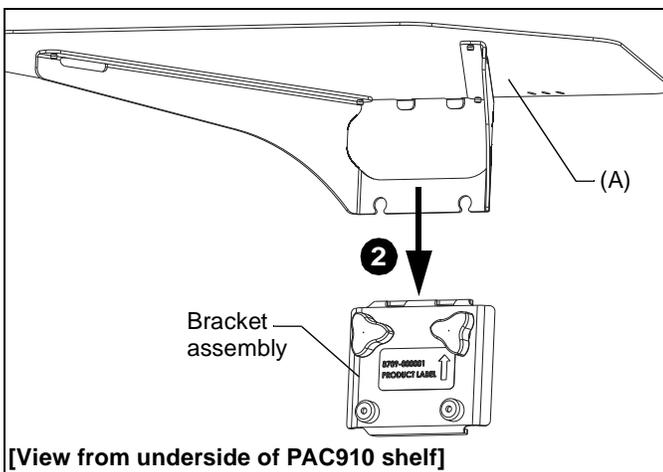

Figure 2
1. Loosen thumb nuts on bracket beneath PAC910 shelf (A). (See Figure 2)
2. Remove bracket assembly from back of PAC910 shelf by sliding downward and away from shelf. (See Figure 2)